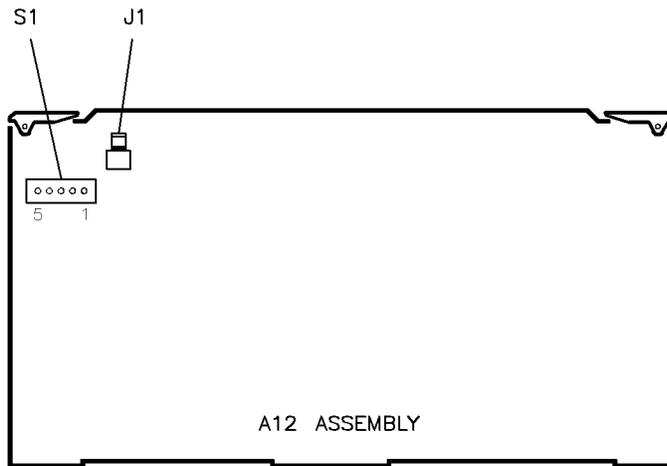

Figure 3-41. A12S1 Location
1. Set A12S1 (shown in Figure 3-41) for the required volts/GHz scale according to the following table: